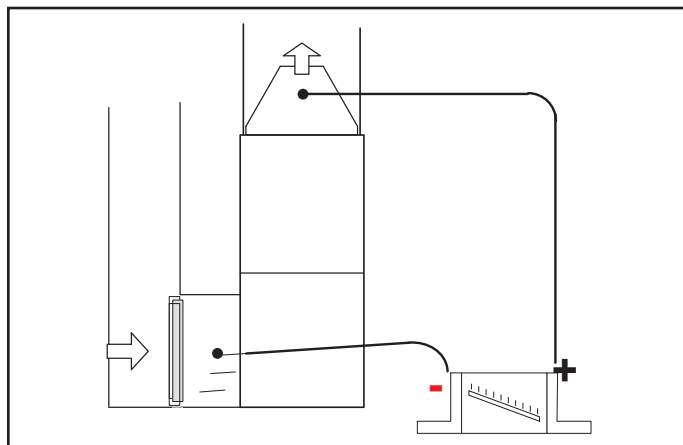

Figure 52. Static Pressure Test
Operating Pressure Signal (Delta P) Measurement (Figure 52)
1. Tap locations shown in **Figure 52**.